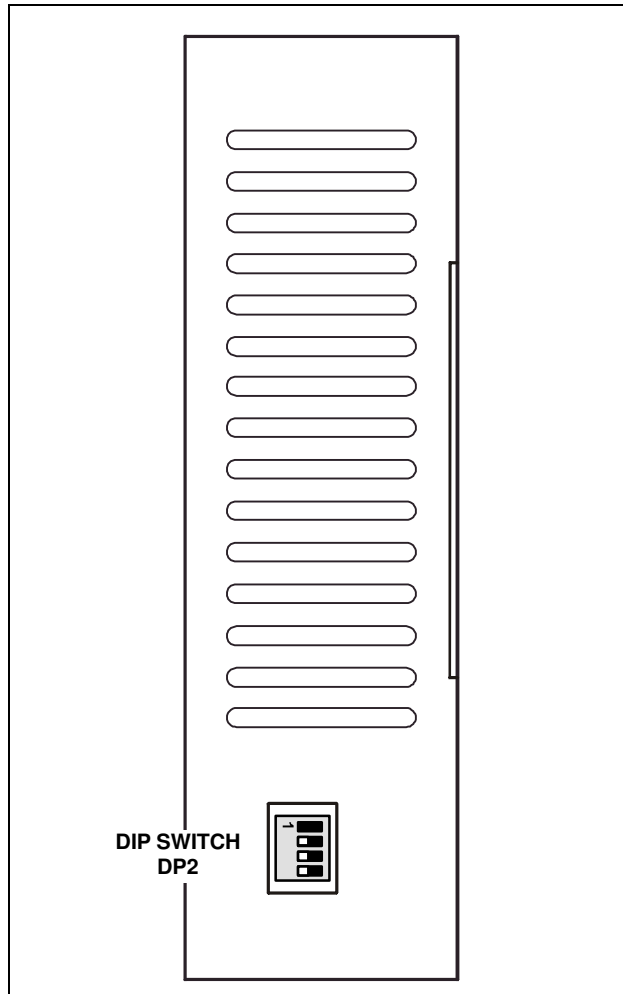

Fig. 5 – Dip-switch DP2 (PLUS E series drives bottom side view).
6.3-Fig. 5 shows the position of DIP-SWITCH DP2 located on the bottom side of PLUS E series drives.
Table 5 shows the position of dip 1, 2, 3 and 4 of **DP2** (see Fig. 5) and corresponding operation mode.